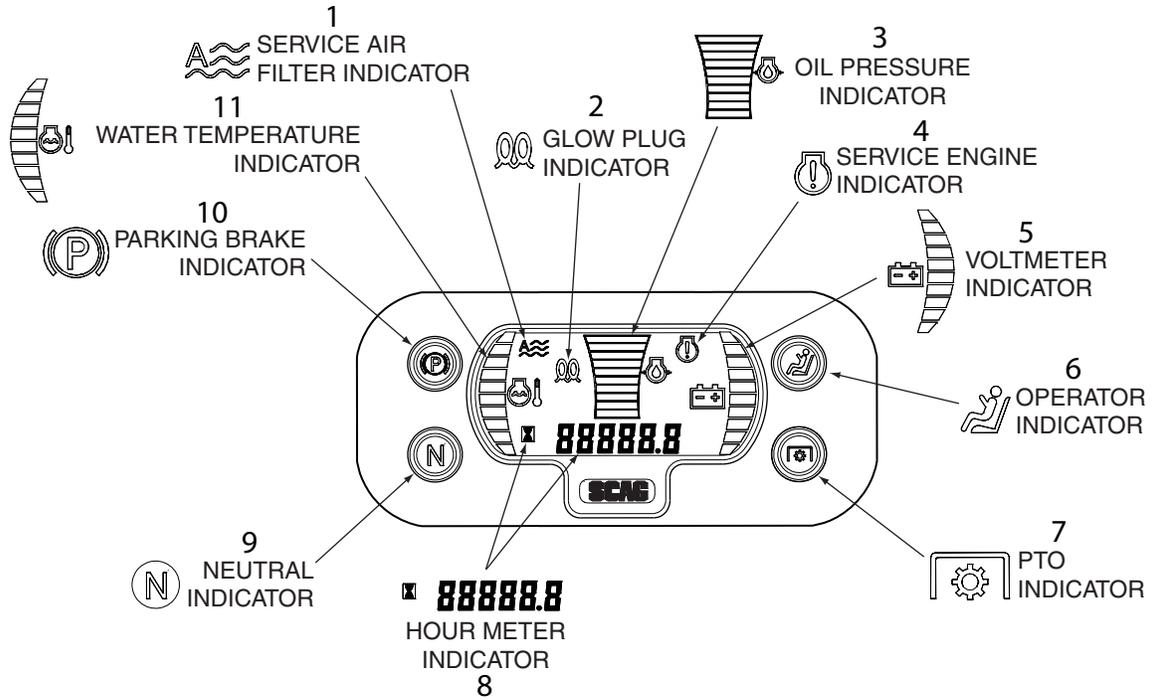

Figure 4-1. Tiger Eye Advanced Monitoring System
1. Service Air Filter Indicator (Figure 4-1). Optional Accessory. Indicates the condition of the engine air filter. Icon will display when it is time to change the air filter.
2. Glow Plug Indicator (Figure 4-1). Used on Diesel Powered Units Only. Indicator turns on when the key switch is turned to the PREHEAT position. Glow plugs must be preheated for 5 to 10 seconds before starting the engine.
3. Oil Pressure Indicator (Figure 4-1). Used on Diesel Powered Units Only. Indicates engine oil pressure. Reference the engine operator's manual for further information.
4. Service Engine Indicator (Figure 4-1). Indicates the maintenance reminder for the engine oil change. Has preset maintenance reminder and will start flashing scheduled maintenance 2 hours before preset time and continue flashing until 2 hours after. Automatically resets.
5. Voltmeter Indicator (Figure 4-1). Indicates the condition of the charging system. When the engine is running, in normal operating conditions, the bar graph should be in the 12 to 14 volt range.
6. Operator Indicator (Figure 4-1). Light will illuminate when the operator is on the platform engaging the operator presence switch.
7. PTO Indicator (Figure 4-1). Light will illuminate when the PTO (mower deck) switch is in the OFF position.
8. Hourmeter Indicator (Figure 4-1). Indicates the number of hours the engine has been operated. It only operates when the engine is running. Will start flashing with the Service Engine Indicator at scheduled maintenance 2 hours before preset time and continue flashing until 2 hours after. Automatically resets.
9. Neutral Indicator (Figure 4-1). Light will illuminate when the steering control levers are in the neutral lock position.
10. Park Brake Indicator (Figure 4-1). Light will illuminate when the park brake is in the engaged (ON) position.
11. Water Temperature Indicator (Figure 4-1). Used on Liquid Cooled Models Only. Indicates the operating temperature of the engine. If the engine temperature exceeds the maximum preset value, the indicator will flash and the Park Brake, PTO, Seat and Neutral indicator lights will flash in an alternating pattern.